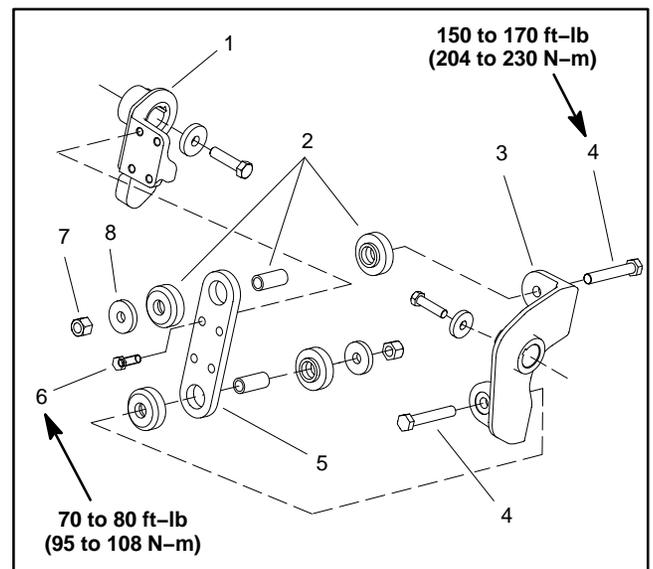

Figure 20
- C. Cap screws that secure coupling plates (Fig. 20).